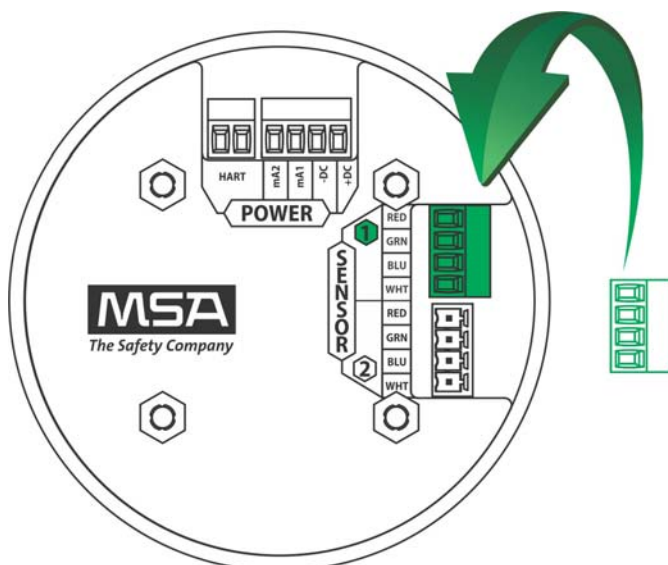

Fig. 9 Connecting Sensor to the Stack
4. Connect the sensor to the "Sensor 1" position on the electronics assembly (see Fig. 9).